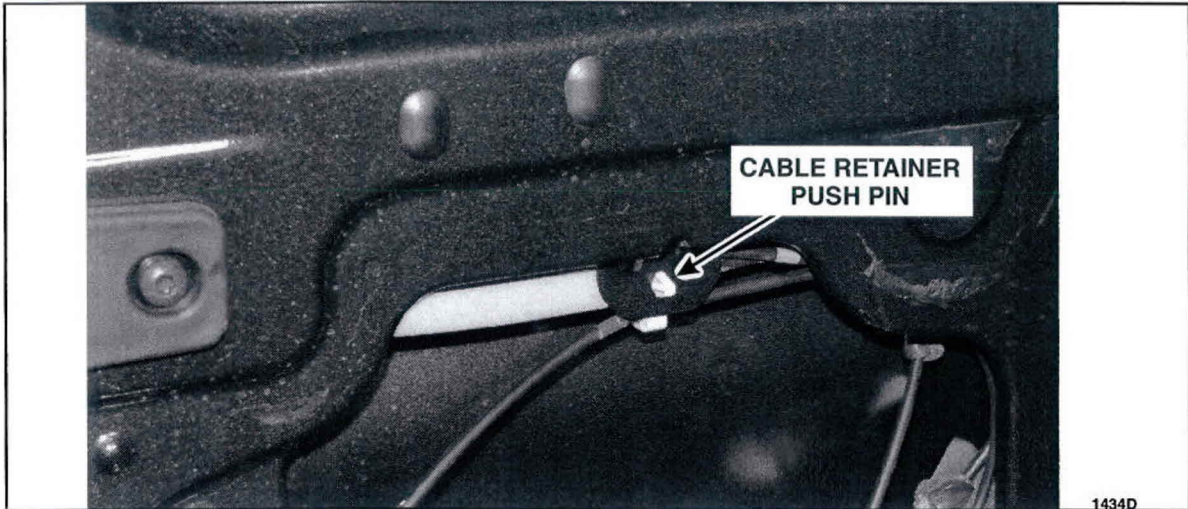

FIGURE 4
6. Detach the cable retainer push pin and roll the sliding door cable control assembly up into the door to allow room for the sliding door reinforcement to be installed. See Figures 4 and 5.
16. Roll the sliding door cable control assembly out from the interior of the door and attach the cable retainer push pin. See Figures 4 and 5.